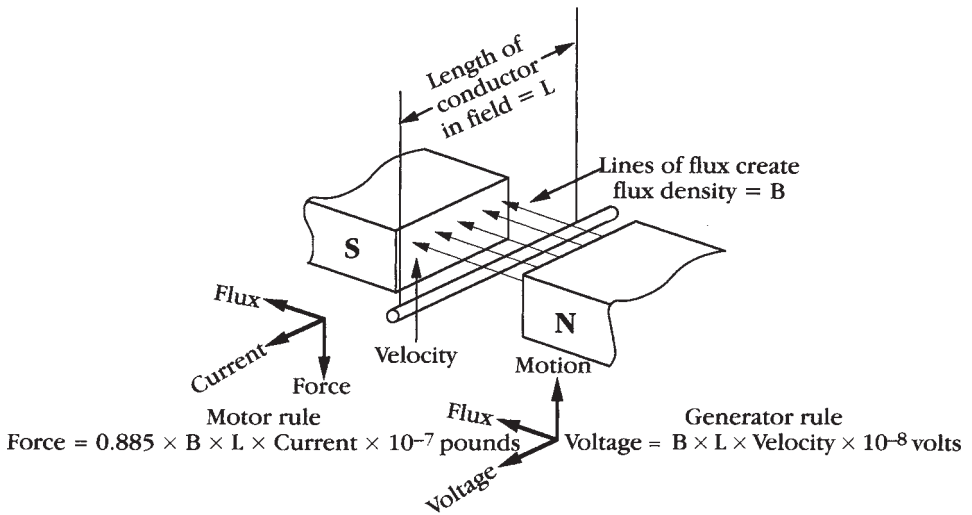
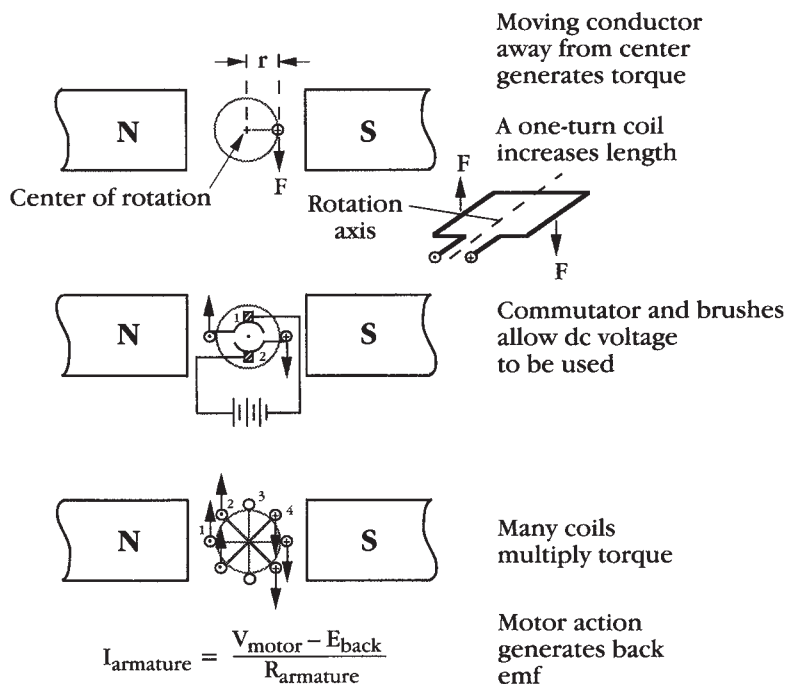

FIGURE 6-1 DC motor basics—the motor and generator rules.
FIGURE 6-2 DC motor's basics—obtaining torque from moving conductors.
If you had a horseshoe-shaped magnet with the ends close together and you moved a wire through its pole area at a right angle to the flux as shown in Figure 6-1, the equation describing it would be
This relationship holds true whether the field is stationary and the wire is moving or vice versa. The faster you cut the lines of flux, the greater the voltage, but you must do so at right angles. (At any angle ϕ other than the 90-degree right angle, that equation becomes $V = Blv \times \sin \phi \times 10^{-8}$.) What you have just demonstrated is Faraday's Law or the generator rule: Motion of a conductor at a right angle through a magnetic field induces a voltage across the conductor. If the circuit is closed, the induced voltage will cause a current to flow. A handy way to remember the relationships is the right-hand rule: the thumb of your right hand points upward in the direction of the motion of the conductor, your index finger extends at right angles to it in the direction of the flux (from north to south pole), and your third finger extends in a direction at right angles to the other two, indicating the polarity of the induced voltage or the direction in which the current will flow as shown in Figure 6-1.
What we have just demonstrated here is Ampere's Law or the motor rule: Current flowing through a conductor at a right angle to a magnetic field produces a force upon the conductor. The right-hand rule is again a handy way to remember the relationships, but this time the thumb of your right hand points toward you in the direction of the current through the conductor, your extended index finger at right angles to it points in the direction of the flux (from north to south pole), and your extended third finger points downwards in a direction at right angles to the other two, indicating the direction of the generated force as shown in Figure 6-1. Now you're ready to talk seriously about motors.
If you could support the conductor shown in Figure 6-1 so that it could rotate in the magnetic field, you would create the condition shown in the upper part of Figure 6-2.
First you need to make it more "force-full." Since the force varies with the length of the conductor, if you make a coil of wire, as shown in the upper right of Figure 6-2, twice as much length is cutting the lines of flux. The force generated on the right-hand wire is downward and the force generated on the left-hand wire is upward; they would assist one another in producing rotation and result in twice the torque.
To further assist rotation, you add the commutator and brushes, shown in the middle of Figure 6-2. This arrangement allows you to power your motor from a constant supply of direct current (DC) voltage. Switching the polarity of the coils when they reach the 12 o'clock or 6 o'clock position (minimum flux point) guarantees that current will always flow in through brush number 2 and out through brush number 1, thus always producing upward force on the left-hand conductor and downward force on the right-hand conductor, and creating a constant rotation.
To further increase the motor's torque abilities, you add additional coils as shown at the bottom of Figure 6-2. In reality, each coil can have many windings, and you can
The armature is the main current-carrying part of a motor that normally rotates (brushless motors tend to blur this distinction) and produces torque via the action of current flow in its coils. It also holds the coils in place, and provides a low reluctance path to the flux. (Reluctance is defined as $(H \times l)/\mu$ and measured in ampere-turns per lines of flux.) The armature usually consists of a shaft surrounded by laminated sheet steel pieces called the *armature core*. The laminations reduce eddy current losses; steel is replaced by more efficient metals in newer designs. There are grooves or slots parallel to the shaft around the outside of the core; the sides of the coils are placed into these slots. The coils (each with many turns of wire) are placed so that one side is under the north pole and the other is under the south pole; adjacent coils are placed in adjacent slots, as shown at the bottom of Figure 6-2. The end of one coil is connected to the beginning of the next coil so that the total force then becomes the sum of the forces generated on each coil.
In the real world, electromagnets (recall your toolbox nail with a few turns of insulated copper wire wrapped around it) are customarily used instead of the permanent magnets you saw in Figure 6-1 and Figure 6-2. (Permanent magnet motors are, in fact, used, and you'll be formally introduced to them and their advantages later in this section.) In a real motor the lines of flux are produced by an electromagnet created by winding turns of wire around its poles or pole pieces. A pole is normally built up of laminated sheet steel pieces, which reduce eddy current losses; as with armatures, steel has been replaced by more efficient metals in the newer models. The pole pieces are usually curved where they surround the armature to produce a more uniform magnetic field. The turns of copper wire around the poles are called the field windings.